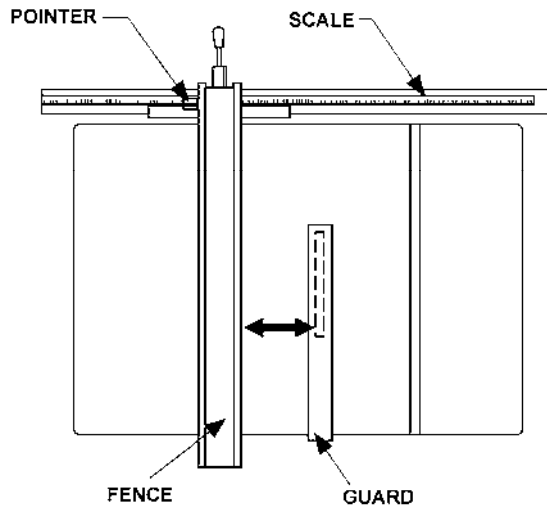

Figure 39
5. The rip fence should be set for the width of the cut by using the scale on the front rail or measuring the distance between the blade and fence (Figure 39). Stand out of line with the saw blade and workpiece to avoid sawdust and splinters coming off the blade and a possible kickback.